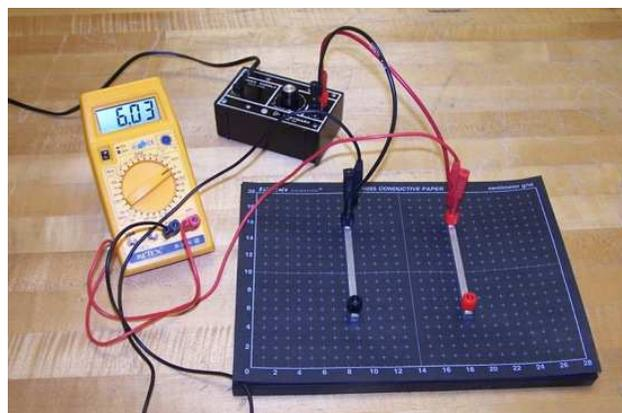

Figure 14.3: Parallel Plate Arrangement
20. Affix a new sheet of conductive paper to the circuit board using four posts as shown in Fig. 14.3. Use red posts for one parallel plate and black posts for the other.